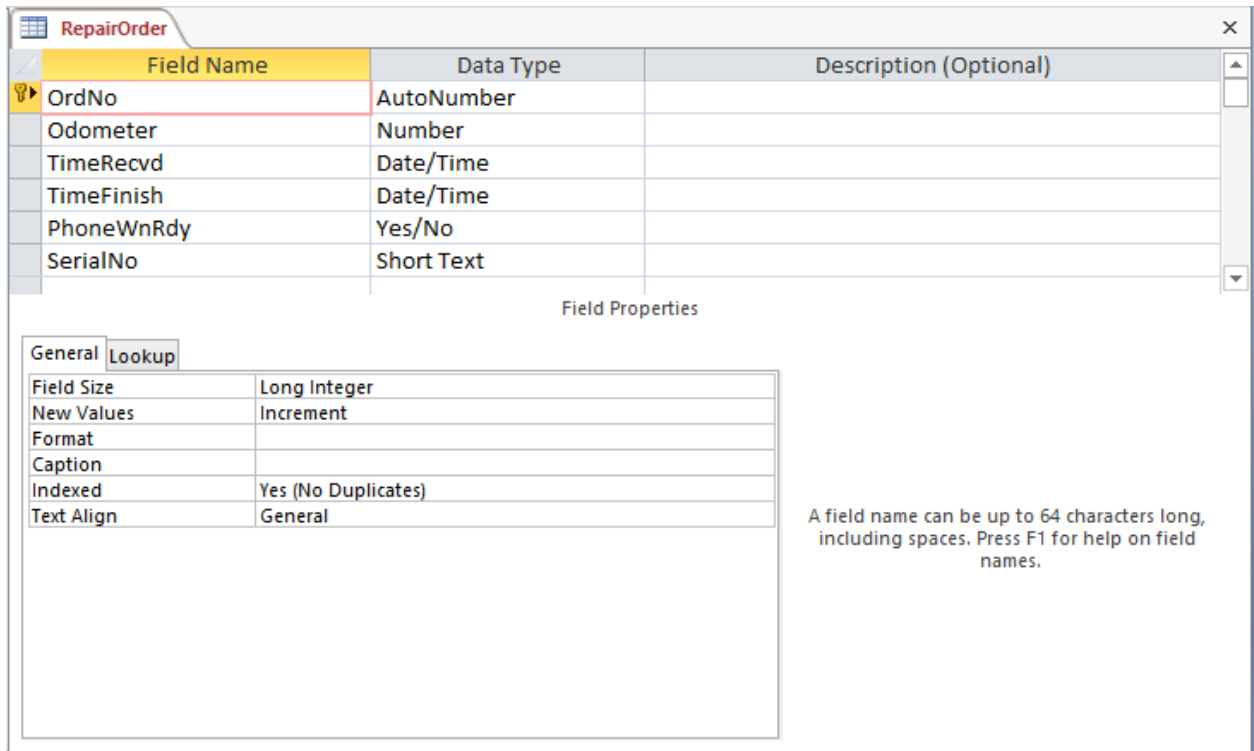

Figure 14: Design View Window for the Completed *RepairOrder* Table
5. Name and Save the Table: Your table should appear as in Figure 14. You can close the table by clicking on the **Close** button. Click the **Yes** button to save your changes and type “RepairOrder” as the table name. After you click **OK**, the Database window appears with the *RepairOrder* table.